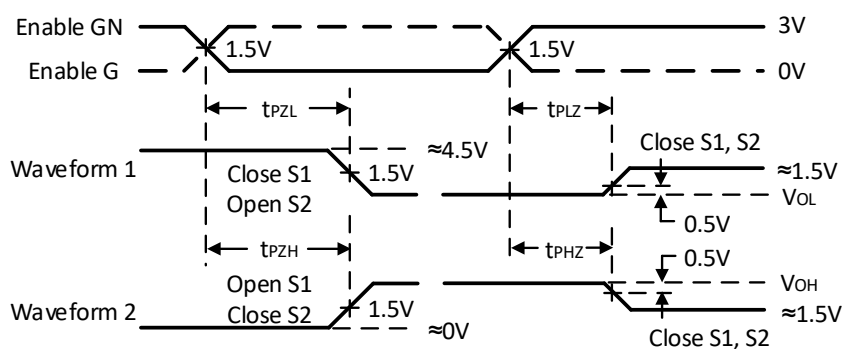

Figure 3. Enable and Disable Time Waveforms
5. Test output enable time and disable time. Note S1 and S2 states are different. Please refer to above table and figure 3 to adjust switch state and test respectively. Waveform 1 represents that driver maintains low-level by input and enable signals (Unless enable terminal controls driver into high-impedance state). Waveform 2 represents that driver maintains high-level by input and enable signals (Unless enable terminal controls driver into high-impedance state).